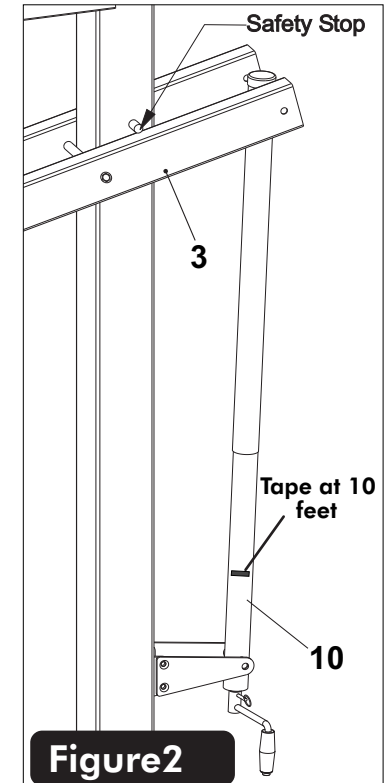

Figure2
3. Lower backboard all the way down. Do not force the actuator once the backboard is in its lowest position. See **Figure 2**.